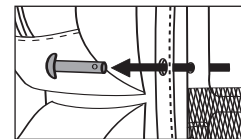

Figure 3A
- A. Remove split ring and clevis pin on the frame just above the mesh backpanel (Figure 3A).